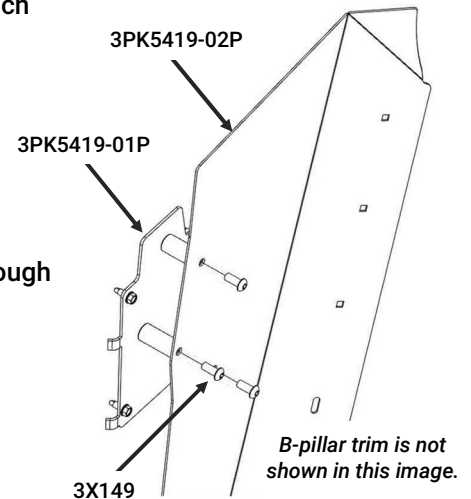

Figure 2
- Locate the passenger mounting plate [3PK5419-02P] and (3) button head screws [3X149].
- Align the three holes in the plate with the 3 standoffs protruding through the b-pillar trim and loosely secure with the screws (Fig 2). The fasteners will be tightened in a later section.